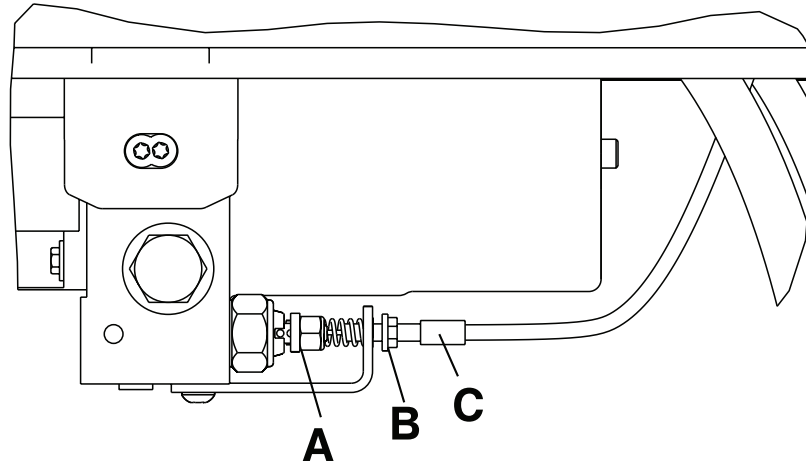

Figure 4 – Manual release cable
2. Make sure that the manual release cable is intact (A) (Figure 4).
3. Using a 10 mm combination wrench, loosen the cable lock nut (B) (Figure 4).
4. Using an 8 mm combination wrench, adjust the tension on the manual release cable so it just starts to touch the manual release dual pull bracket (C) (Figure 4).